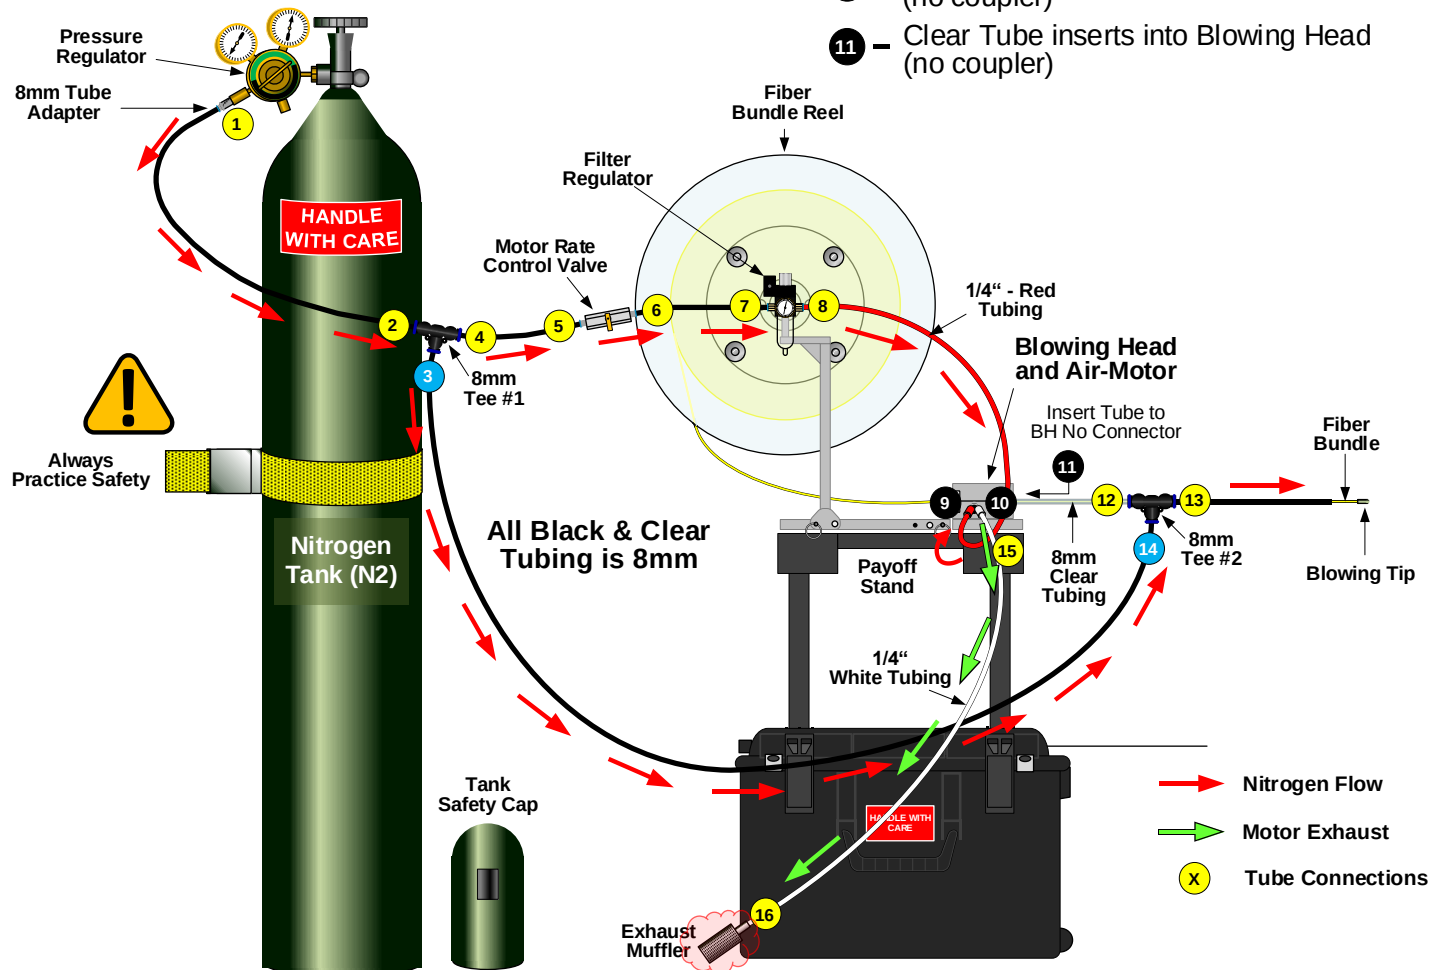

Figure 2
5.1 See Fig. 2 for Blowing Head Equipment layout. Also refer to Sumitomo Recommended Procedure SP-F04-001 for detailed set-up procedures.